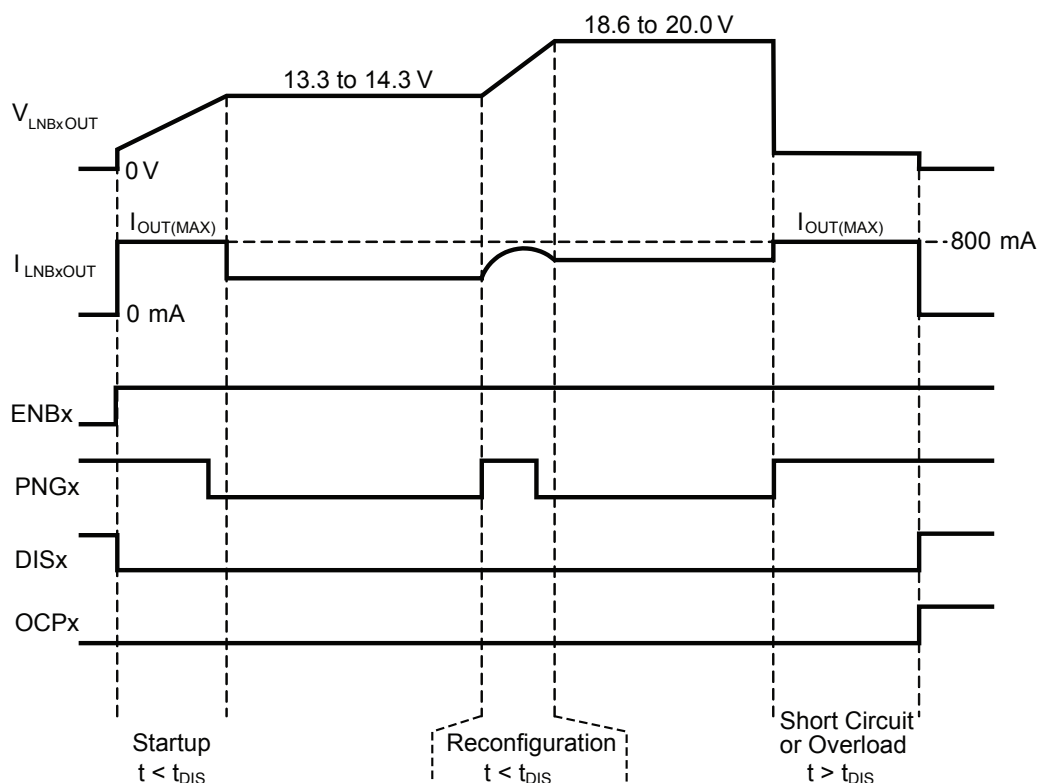

Figure 1. Startup, reconfiguration, and short circuit operation using  $R_{SET} = 37.4 \text{ k}\Omega$ , and a capacitive load
**LNB and BOOST Current Limits.** The LNBx output current limit,  $I_{\text{OUT(MAX)}}$  can be set by connecting a resistor ( $R_{\text{SET}}$ ) from the ISET pin to GND as shown in the applications schematic. The LNBx current limit can be set from 300 to 800 mA, corresponding to an  $R_{\text{SET}}$  value of 100 to 37.4 k $\Omega$ , respectively. If the LNBx current limit is exceeded for more than the Overcurrent Disable Time ( $t_{\text{DIS}}$ ) then the LNBx output will be disabled and the OCPx bit set, as shown in figure 1. The LNBx output current limit can be set as high as 950 mA ( $R_{\text{SET}} = 31.6 \text{ k}\Omega$ ) but care should be taken not to exceed the thermal limit of the package or thermal shutdown (TSD) will occur. The typical LNBx output current limit can be set according to the following equation:
If the LNBx output current exceeds the set output current, for more than 45 ms, then the LNBx output will be disabled and the OCP bit will be set. See figure 1.